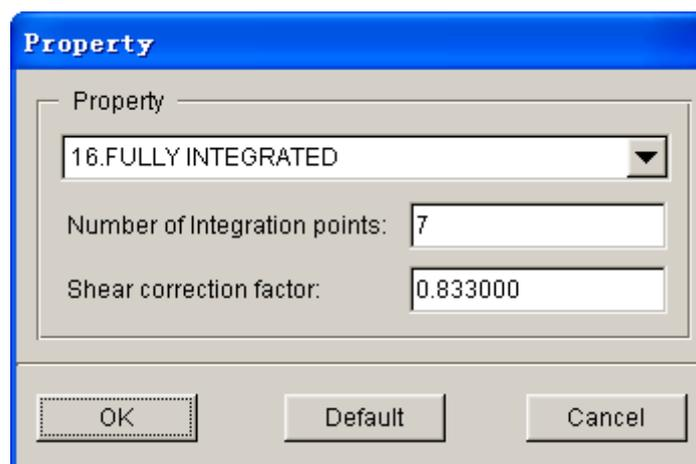

Figure 6.10 Property dialog box
3. Define property. Click **ELFORM=2** button. A dialog box (as shown Figure 6.10) is popped up. In the drop-down menu, select the fully integrated element recommended in the LS-DYNA springback analysis, and set the Number of Integration points as 7, then click **OK** to exit the dialog.